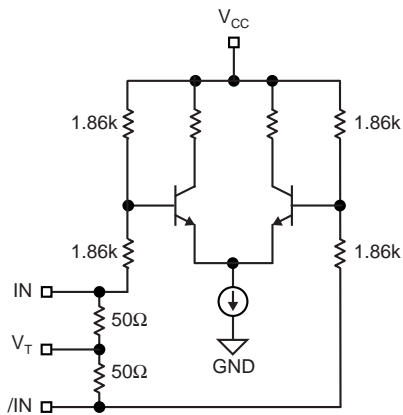

Figure 2a. Simplified Differential Input Buffer
- Note 3.** Due to the internal termination (see Figure 2a) the input current depends on the applied voltages at IN, /IN and  $V_T$  inputs. Do not apply a combination of voltages that causes the input current to exceed the maximum limit!